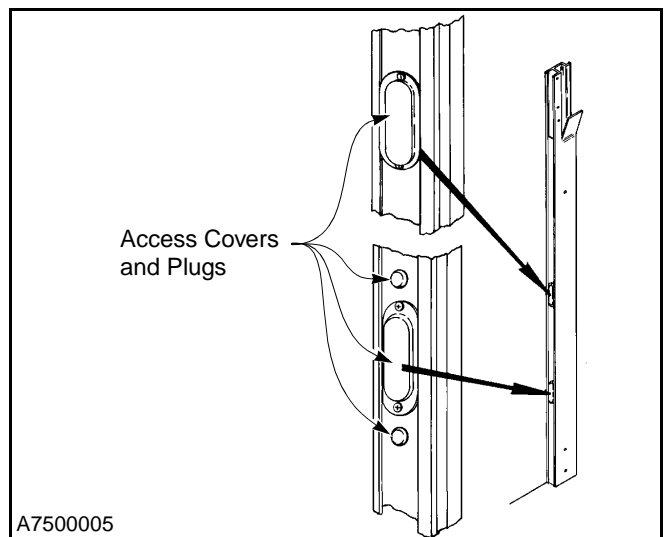

Figure 28
2. Locate and remove the access covers and hole plugs from the side column. (See Figure 28.)